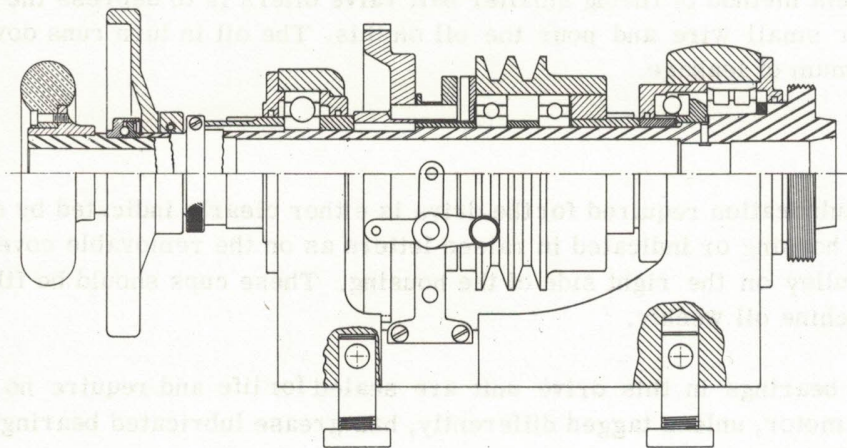

Fig. 4 Sectional View of Headstock
Two oil cups, Fig. 4 (A) at the front of the head should be checked to see they are full each time the lathe is used. These should be kept filled with oil, equivalent to Colonial Beacon "Spinesso #38", before the lathe is started. Do not add oil while lathe is running.